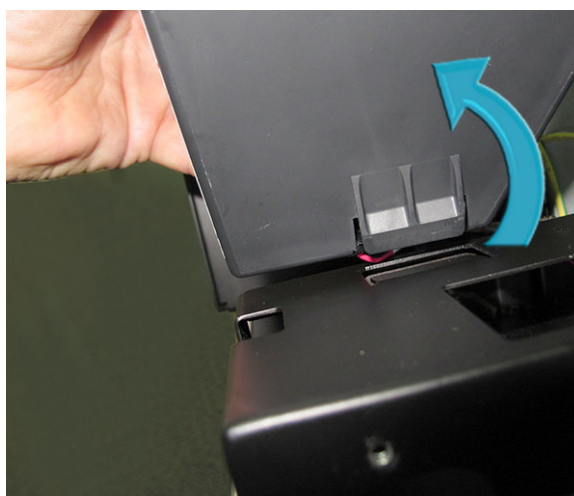

Figure 8-164 Removing the Sub-Woofer Assembly
- 4) Lift and tilt the Sub-woofer Assembly to release it from the securing tab, then remove it from the cabinet cage - see Figure 8-164.
- 1.) Return the replacement Sub-Woofer Assembly (together with the cable attached) to its position on top of the cabinet cage - refer to Figure 8-164.